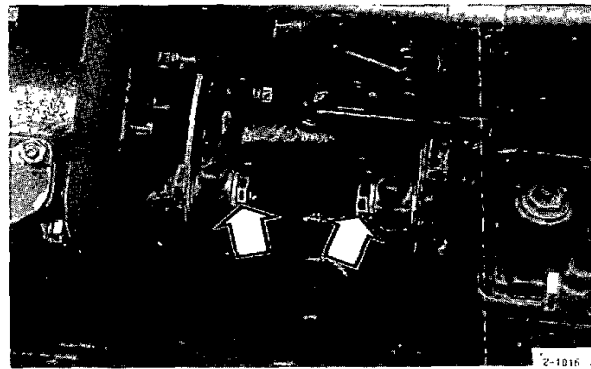

Fig. 140. Bolts in the pump coupling.
2. Unscrew the four bolts (fig. 140) for the pump coupling. **NOTE! Do not turn the nuts** to avoid damage to the steel discs. Remove the nuts.
9. Mount the pump coupling together with the dished washers between coupling and steel discs. Tighten the bolts (fig. 140). **NOTE! The nuts must be held steady** in order not to damage the steel discs. Check that the nuts are not damaged and lock properly, and that the marking on the pump and coupling coincide.